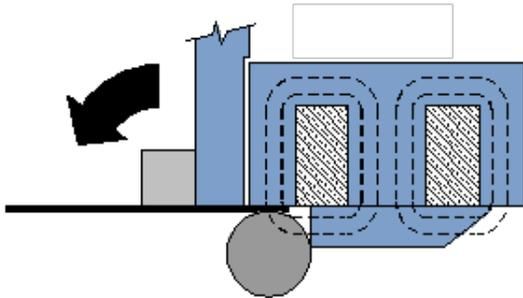

Figure 13-3
1. Position the clamping bar and the round bar as shown in (fig. 13-3) to ensure that the piece part is positioned correctly. Energize the electromagnet.